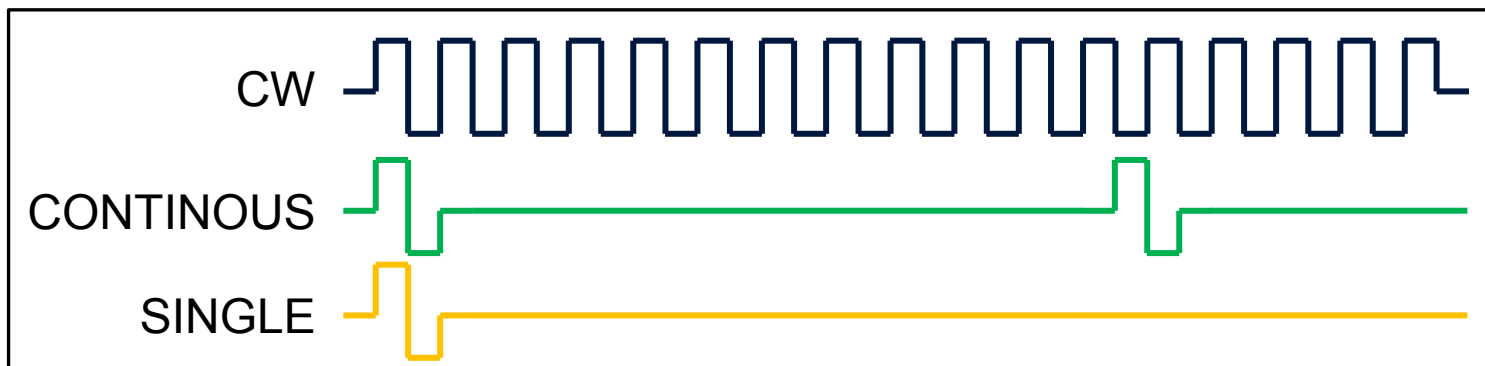

Figure 4: Operative mode example
2) Operative Mode box: the available selections are (see Figure 4):